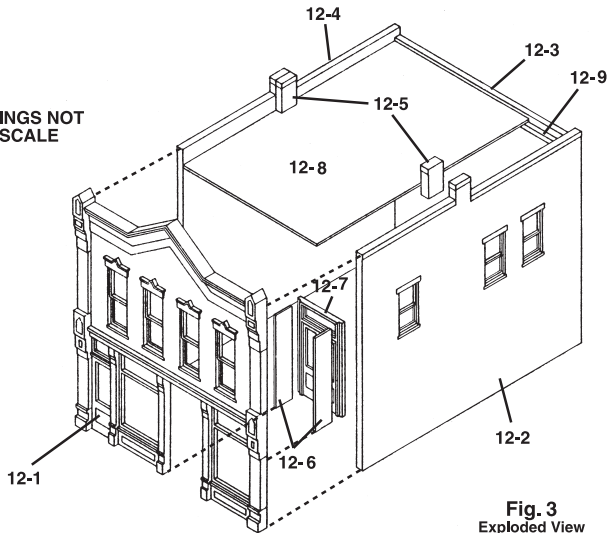

Fig. 3
1. Install Roof (12-8) through bottom of building and glue to bottom of Chimney Backs (**Fig. 3**).
3. Glue two Roof Supports to the bottom of Roof and along Front Wall and two to the bottom of Roof and along Rear Wall (**Fig. 3**).